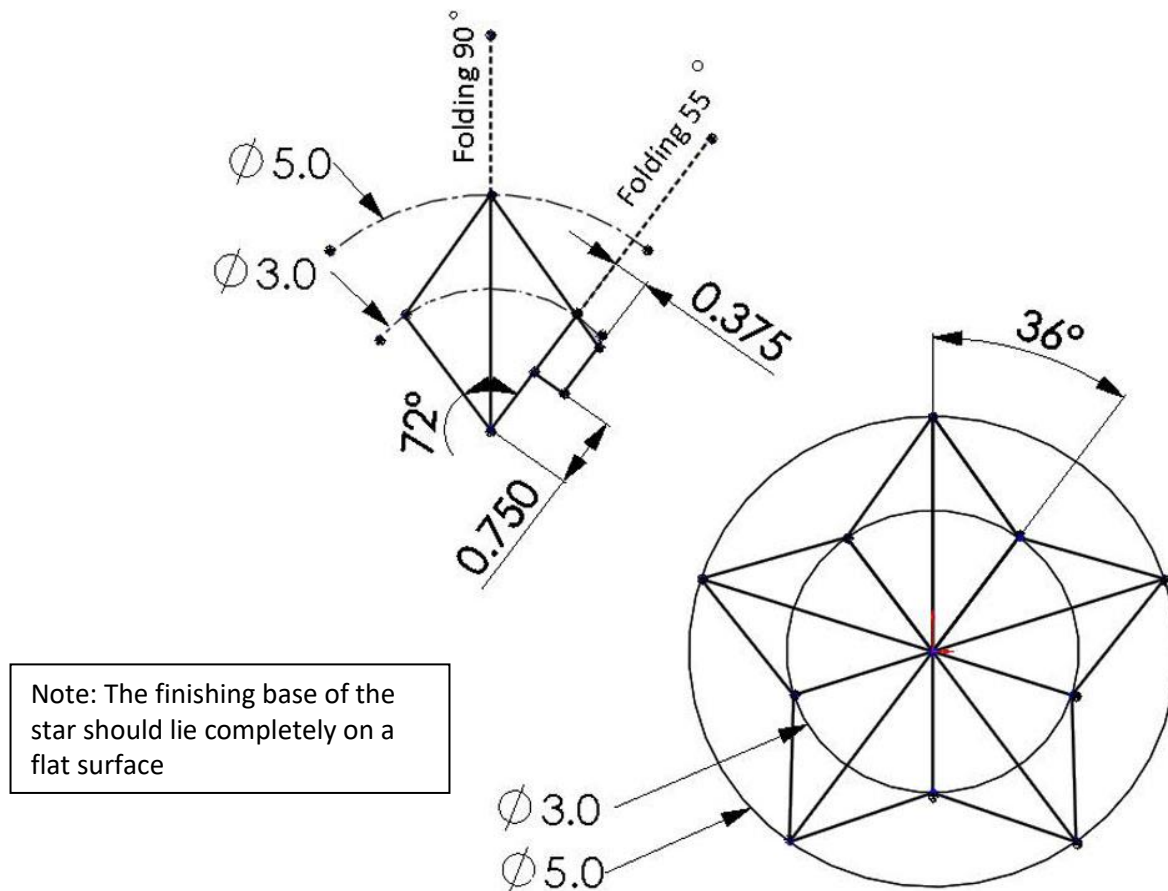

Fig. L8.3: Layout for the star. All dimensions are in inches.
2. Draw the layout of a branch using compass, protractor, and ruler (Fig. L8.3). Repeat for 4 other branches.